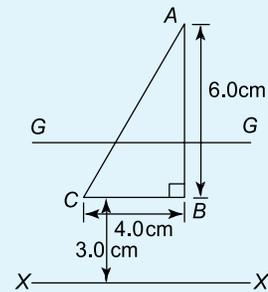

Figure 8.42
9. The second moment of area about axis  $XX$  of the triangle  $ABC$  shown in Figure 8.42 is:
10. The radius of gyration about axis  $GG$  of the triangle shown in Figure 8.42 is: